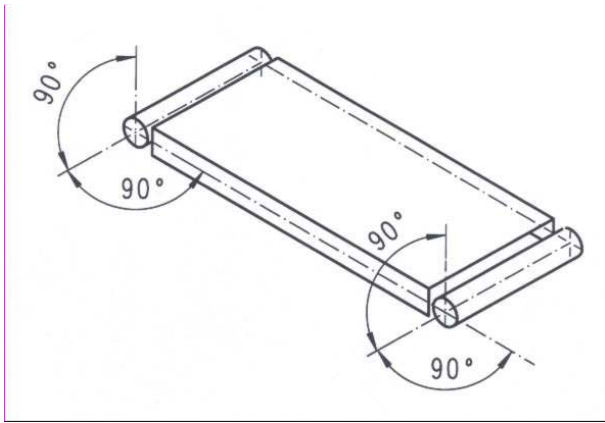

Figure 6: Alignment of the axles
- Adjust the axles of the drive and deflection rollers towards each other and to the conveyor belt frame in true alignment (Figure 6).